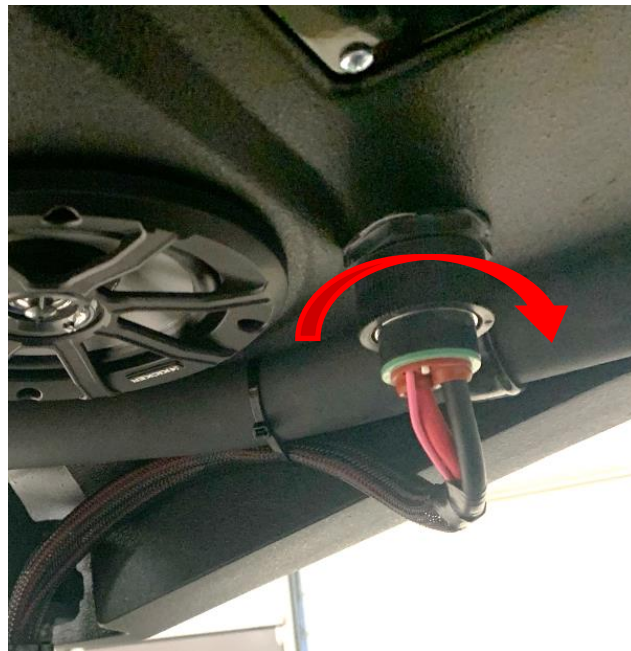

Figure 18: Align connector terminals and rotate 1/4 turn.
19. Line up the terminals on the chassis harness connector with the bulk head connector located on the back driver's side corner of the top. Plug the connector in and rotate the ¼ turn collar to lock the connector together. See Figure 18.